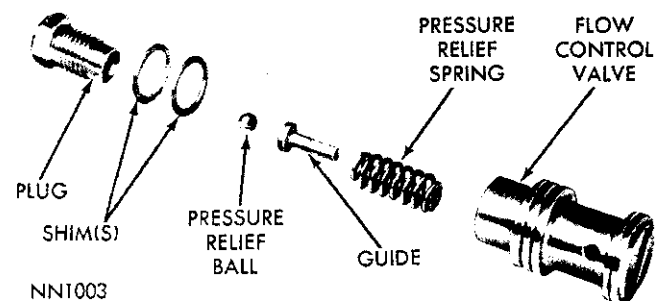

Fig. 20—Flow Control Valve (.94 Pump)
(1) Insert spring, guide and pressure relief ball in end of flow control valve (Fig. 20).
(2) Install hex head plug using the same number of shims as were removed. **Altering shim thickness will change relief pressure.**
(3) Install hex head plug and tighten to 50 inch-pounds.
(4) Insert flow valve spring and valve in bore. Install new "O" ring on pressure hose fitting and lubricate with power steering fluid.
(5) Thread fitting into pump body and tighten to 20 foot-pounds.